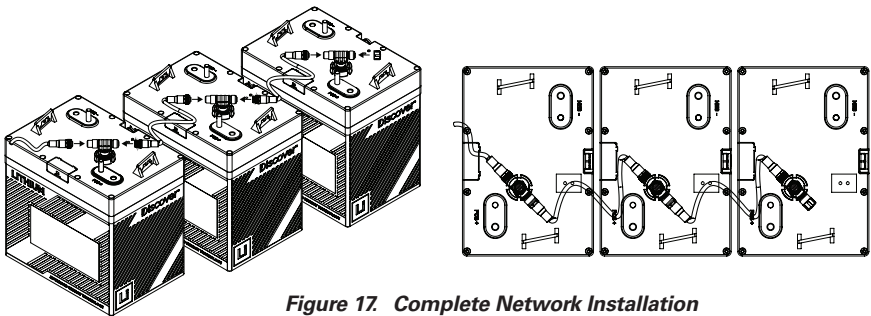

Figure 17. Complete Network Installation
4. Repeat until all batteries have been attached in a series network (Figure 17).